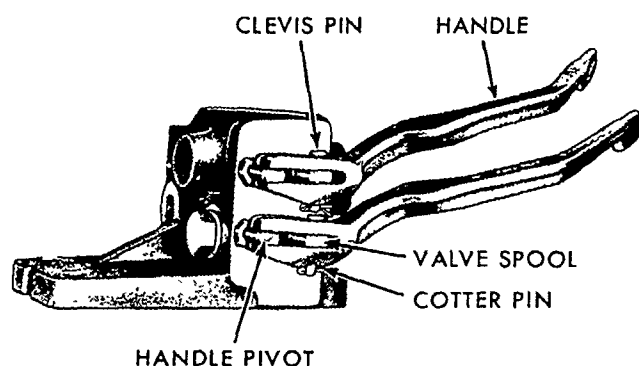

Figure 8
2. Remove the cotter pin(s) from the handle clevis pin(s), Figure 8. Pull the clevis pin(s) out and remove the handle(s).
1. Remove the cotter pin(s) from the handle clevis pin(s), Figure 8. Pull the clevis pins out and remove the handle(s).